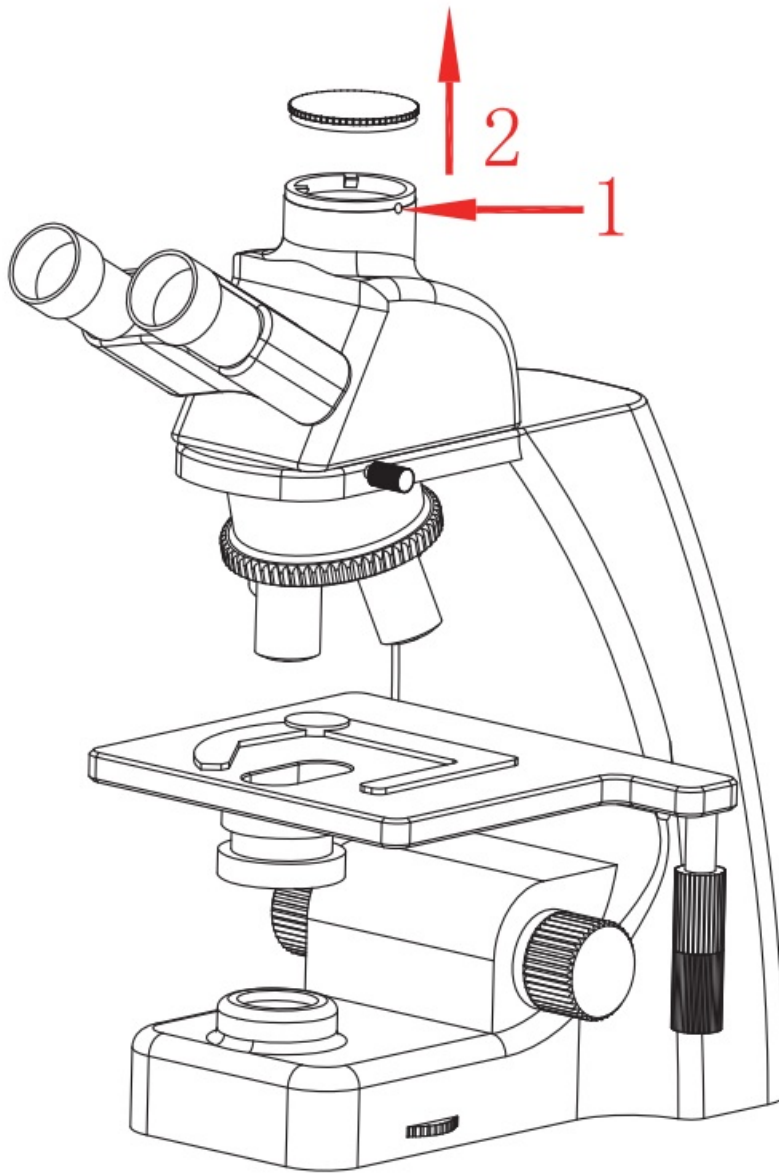

Figure 1
1. Remove the dust cover of microscope dovetail slot or standard C -mount, as shown in Figure1.